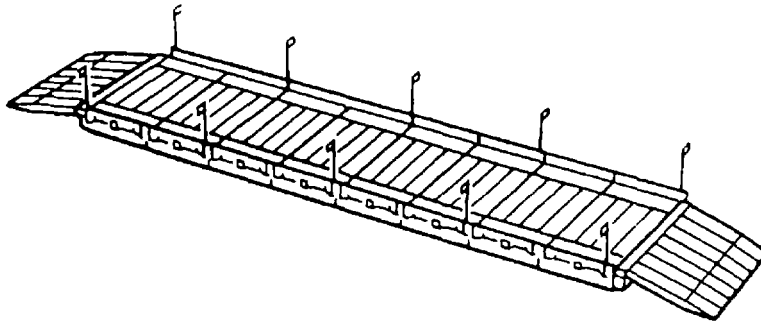
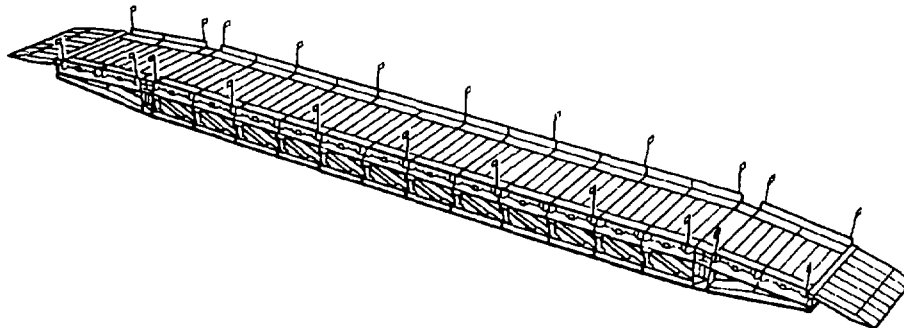
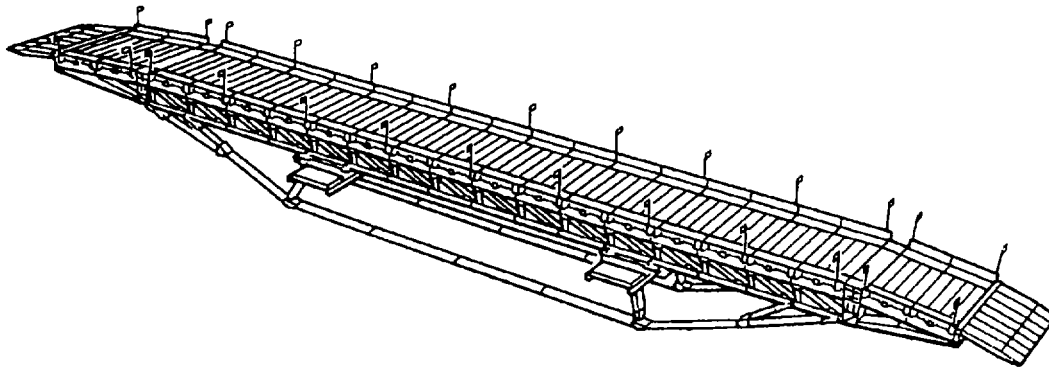

FIGURE 1-1 Single story MGB.
FIGURE 1-2 Double story MGB
FIGURE 1-3 Link reinforced MGB.
a. The Medium Girder Bridge (MGB) is a two girder deck bridge. The wide upper surfaces of the girders, and the deck units laid between them form a roadway 13 ft 2 in (4.0 m) wide. The girders can be constructed in two forms: a shallow single story construction as shown in Figure 1-1, or a deeper double story construction as shown in Figure 1-2. The double story can be reinforced by adding components of the Link Reinforcement Set (LRS) as shown in Figure 1-3; this permits longer Military Load Class (MLC) 70 bridges to be constructed.